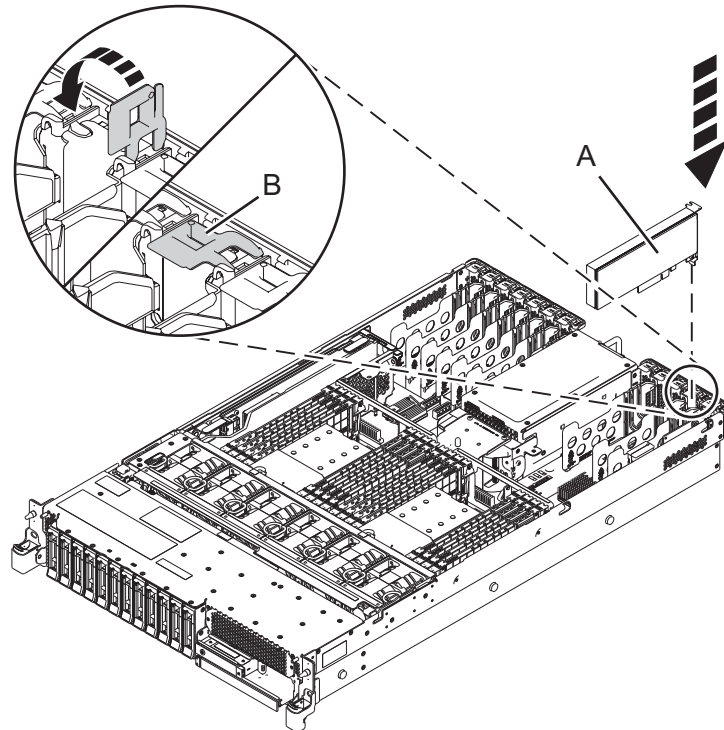

Figure 6. Installing or replacing a PCIe adapter in the 5148-21L, 5148-22L, 8247-21L, 8247-22L, 8284-21A, or 8284-22A system
8. If the adapter latch (B) at the target slot is not already in the open position, pull the latch into the open position by rotating the latch outwards from its clip on the back of the system, as shown in Figure 6 on page 11.
9. Carefully grasp the adapter by its top edge or tailstock, and align the adapter with the slot and its connector on the system backplane (A), as shown in Figure 6.
11. To lock the adapter in its slot, rotate the adapter latch (B) in the direction that is shown in Figure 6.